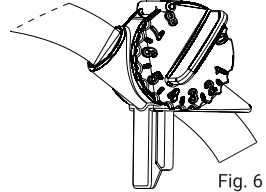
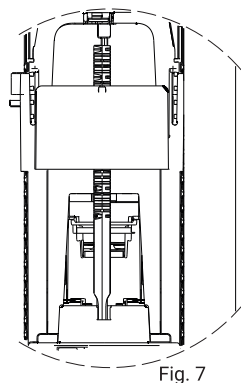
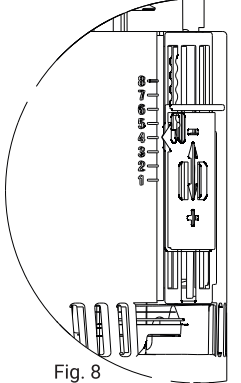

Fig. 6
Fig. 7
Fig. 8
- To adjust the water level in the refill tube (change of water seal), check the column "Refill flow adjustment" and figure 6; Check the positioning of the regulators for half flush Fig.7 and full flush Fig. 8.
To adjust the water refill volume, adjust the flow regulator as shown in chart. Fig. 6.
WARNING: The hose must extend 10 mm beyond the tip of the regulator. (Fig 6)